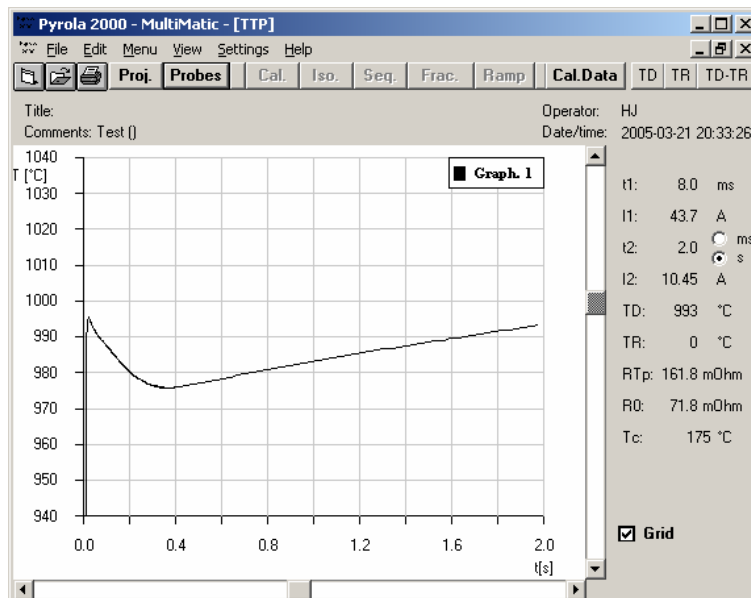
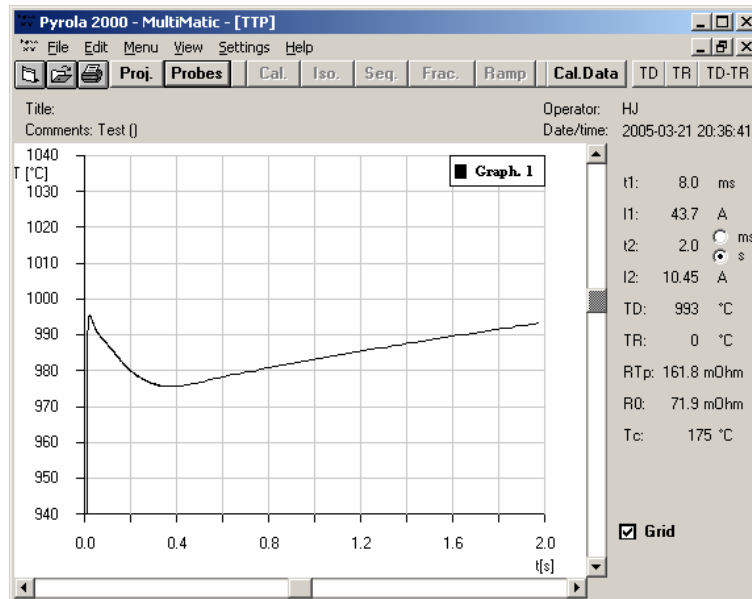

Figure I-4. The TTP after the third pyrolysis gives an acceptable result. Note the changed scaling on the y-axis.
Figure I-5. Repeating the pyrolysis gives the same result, compare with Figure I-4.
9. Decreasing both I1 and I2 gives an acceptable TTP, see Figure I-4.
10. For reliable pyrolysis results the TTP has to be repeatable as well as “ideal”. Therefore re-run the pyrolysis with the same parameters and compare the results. The result of the repeated test for this example is shown in Figure I-5. The results are very close compared to those in Figure I-4 and thus the repeatability is good.